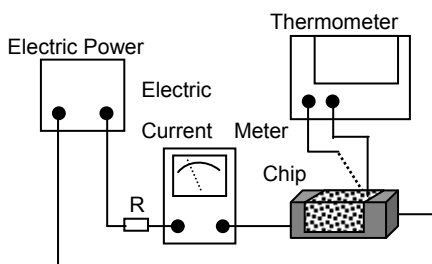

Fig. 5.3.5-1
- d. Definition of Rated Current(Ir): Ir is direct electric current as chip surface temperature rose just 20°C against chip initial surface temperature(T_a) (see **Fig. 5.3.5-2**).